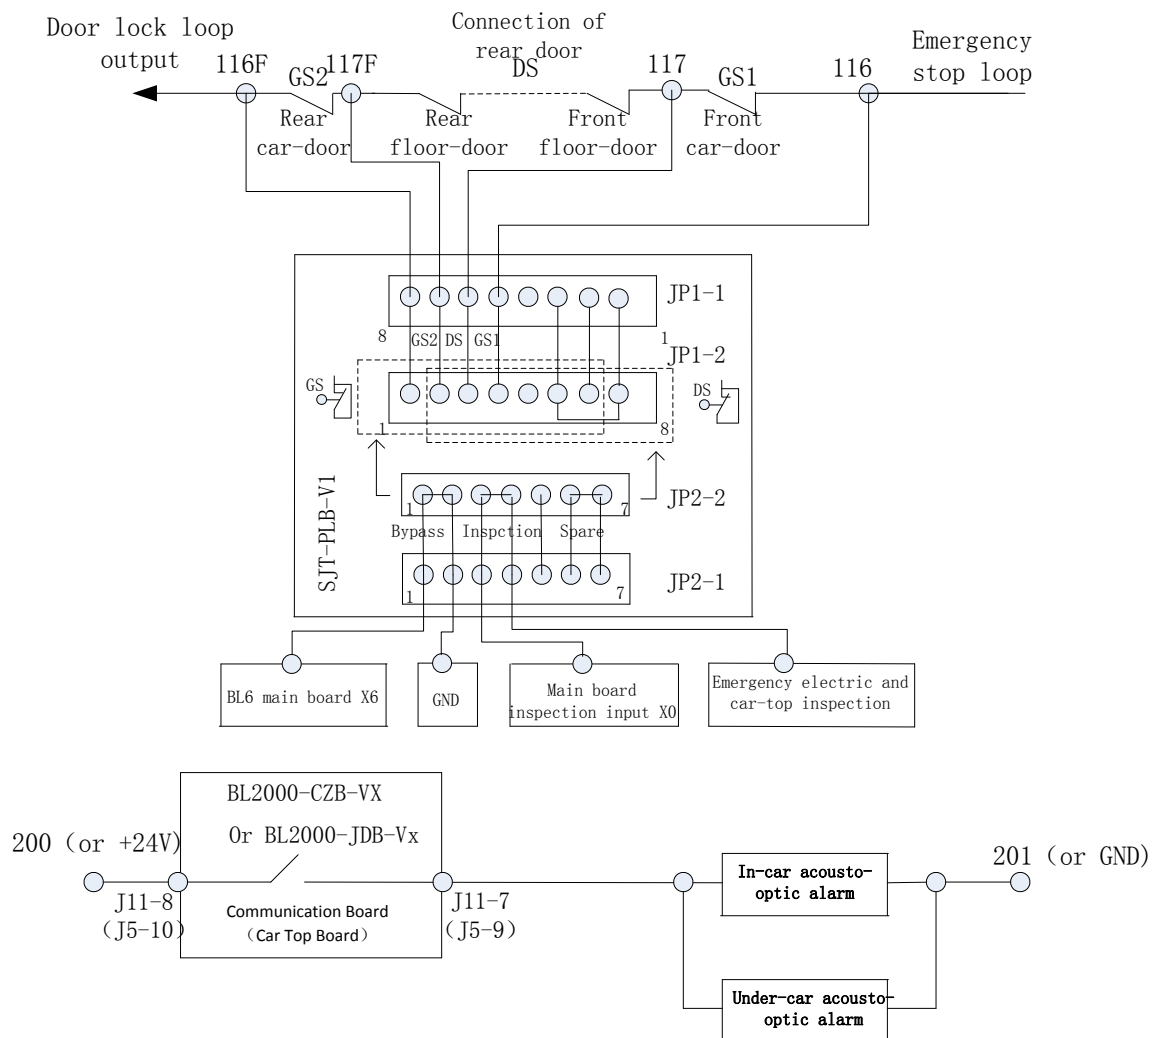
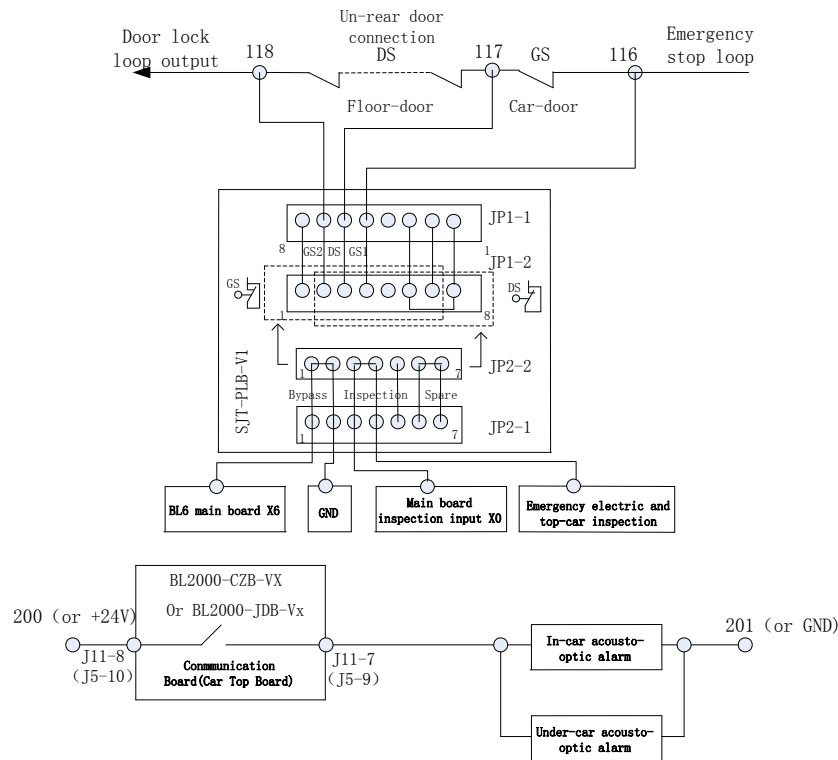

Figure F12.6 BL6-U series elevator integrated controller rear door bypass plan
Figure F12.7 BL6-U series elevator integrated controller un-rear door bypass plan
- 1、 Using a SJT-PLB-V1 dedicated bypass circuit board, such as figure F12.6 and figure F12.7, to use a 7 pin JP2-2 and a 8 pin JP1-2 plug-in with a 7 pin plug (out of factory) to achieve bypass operation.